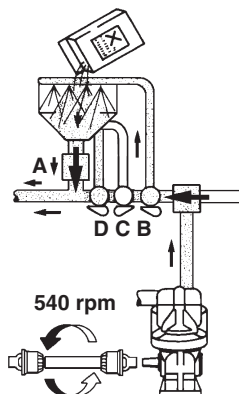

Fig 23
- 4 Open the bottom valve of the filler (**A** Fig 23 & **A** Fig 17) and open the filler lid.
- 5 Engage the hopper flushing device and hopper swirl device by opening their respective valves (**B** Fig 23 & **B** Fig 17) and (**D** Fig 23 & **D** Fig 17).
- 7 Close all flush and swirl valves (**B**, **C** & **D** Fig 23 & **B**, **C** & **D** Fig 17) once the hopper is flushed.
- 8 Close the bottom valve of the filler (**A** Fig 23 & **A** Fig 17) and the filler lid again.